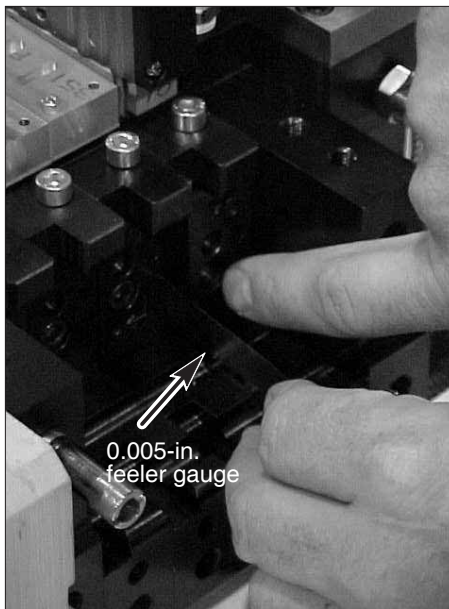

Figure 7-29 Using a feeler gauge to install the last adhesive diverter plate
2. See Figure 7-29. When installing the last adhesive diverter plate, use a 0.005-in. feeler gauge over the side O-ring to “shoehorn” it into position.